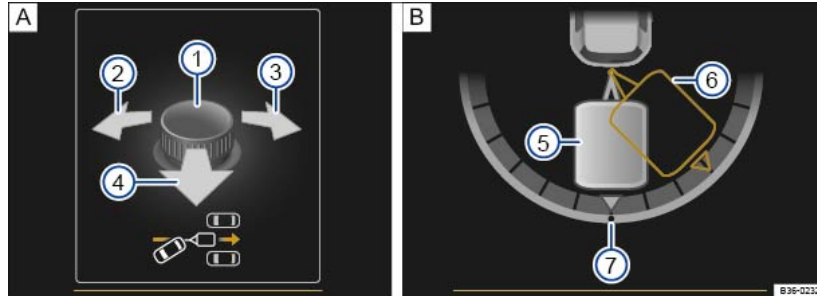

Fig. 161 Operating the trailer manoeuvring system on the instrument cluster display: setting the angle; reversing.
Key to **Fig. 161** :
- Tilt the rotary knob until the desired direction is reached. A representation of the current position of the vehicle and trailer is shown on the instrument cluster display for orientation purposes **Fig. 161 B** .